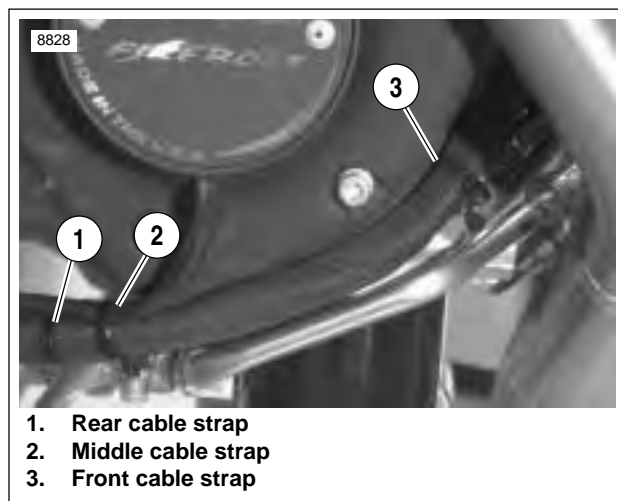

Figure 7-77. Cable Straps
13. See Figure 7-77. Install cable straps:
- a. Front cable strap (3) secures voltage regulator and oil pressure switch wiring.
- b. Middle cable strap (2) secures voltage regulator, oil pressure switch and cam position sensor wiring.
- c. Rear cable strap (1) secures conduit to voltage regulator wiring.